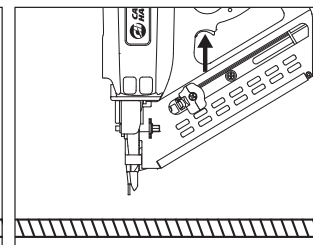

Figure 14
2. Remove tool from work surface. Pull the trigger and hold trigger for five seconds. The tool **MUST NOT** actuate and the trigger **SHOULD NOT** fully depress (see Figure 14).